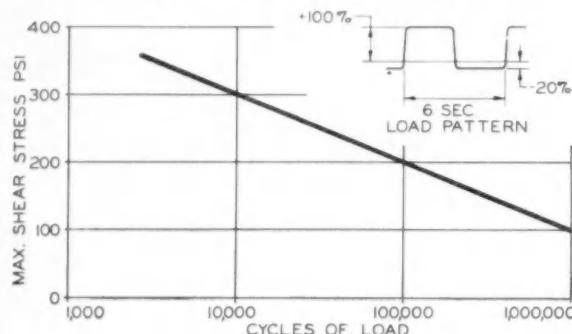

Fig. 1 — Load-life curve for rubber torsion springs.
An approximate load-life curve for a rubber torsional spring is shown in Fig. 1. The actual load-life relationship in this type of unit varies considerably depending upon many variables as follows:
**2. Load Pattern:** The shape of the load-time curve has an effect on the overall life of the unit. The results shown in Fig. 1 are based upon an approximate
Material tested to obtain the load life curve (shown in Fig. 1) is in the range of 45-55 durometer natural rubber with comparatively low internal hysteresis.
**4. Test Procedure:** The fatigue test data obtained for Fig. 1 was obtained by fatiguing at low frequencies by successively applying torque load through an air motor drive. This type of unit does not wind up a spring to a fixed amplitude, it has the property of stopping at a given load at any amplitude where it occurs. It is assumed that a failure occurs when the original amplitude has doubled.